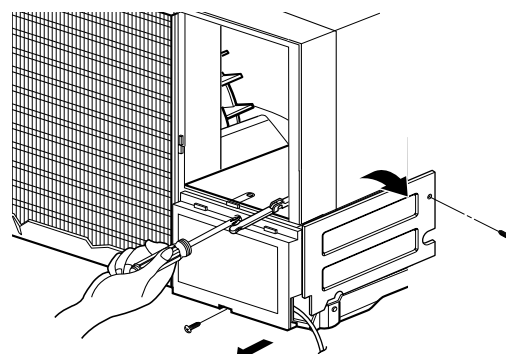

Figure 3
10. Re-install the components by referring to the removal procedure, above. (See Figure 3)